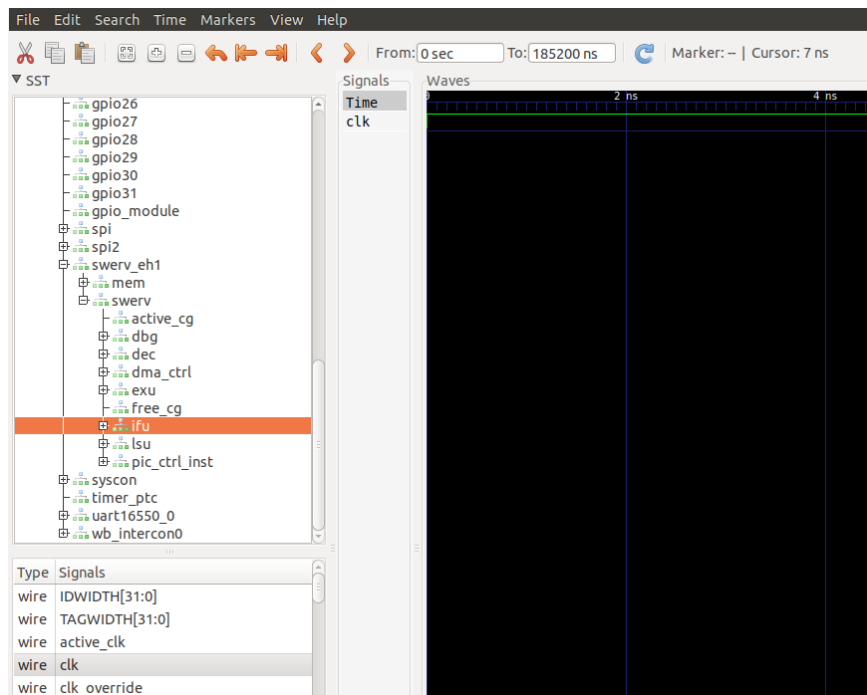

Figure 84. Add signal *clk* to the graph
- Now you will add clock, instruction, and register signals. On the top left pane of *GTKWave*, expand the hierarchy of the SoC so that you can add signals to the graph. Expand the hierarchy into **TOP** → **rvfpgasim** → **swervolf** → **swerv_eh1** → **swerv**, and click on module **ifu** (it will highlight as shown in the Figure 84), select signal *clk* (which is